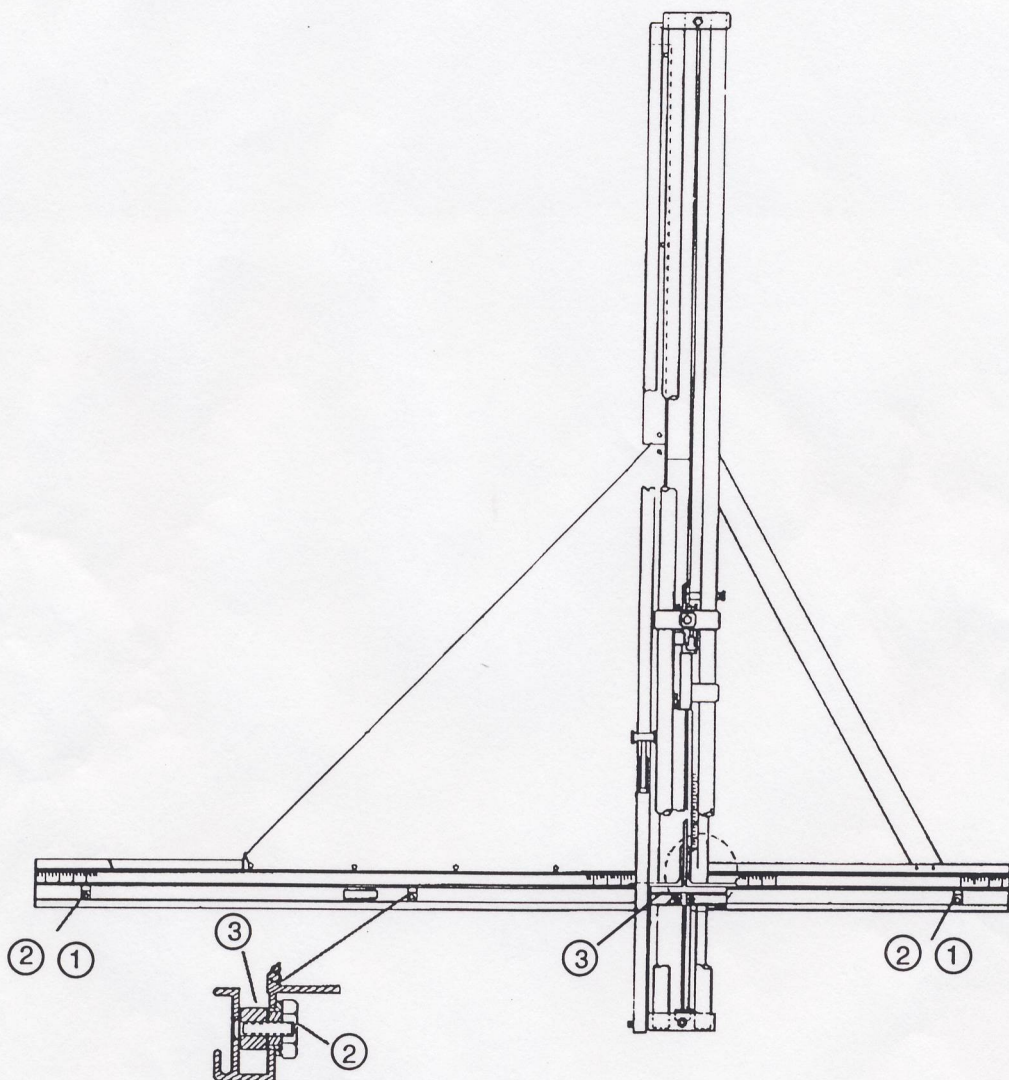

Fig. 1
1. Loosen the cap screw on the outermost eccentric hex (Ref. #1 - Fig. 1). One is located at approx. the 46" mark on the left side of the machine and the other is located on the right support of the machine. Do not loosen the cap screw for the middle eccentric hex located at the 20" mark on the left side of the machine at this time.
2. Reach around the back of the machine and lower the squaring edge bar on the left as well as the right as low as it will go by turning the eccentric hex (Ref. #2 - Fig. 1). Remember, do not touch the middle eccentric hex at this time.
7. If the two cuts line up, the first 20" is square. At this point, you are only checking the status of the first 20" (to the point of the middle eccentric hex). If the second cut falls either to the left or to the right of the original, then an adjustment needs to be made to the middle eccentric hex only. Keep in mind that the error is half the distance between the two cut lines. For example, if the distance between the two cut lines is 1/8", the actual error is 1/16". Note: if the second cut falls to the left of the first, then the squaring edge bar (Ref. #3 - Fig. 1) needs to be lowered. If the second cut falls to the right, the bar needs to be raised.
(Please refer to Fig. 1 on reverse slide)